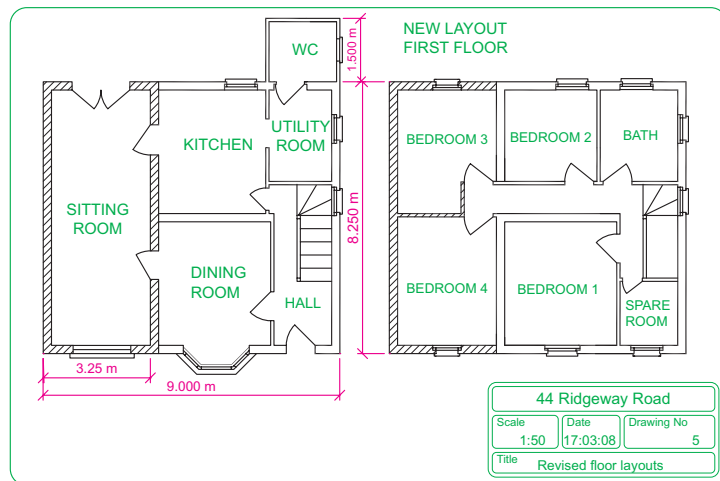
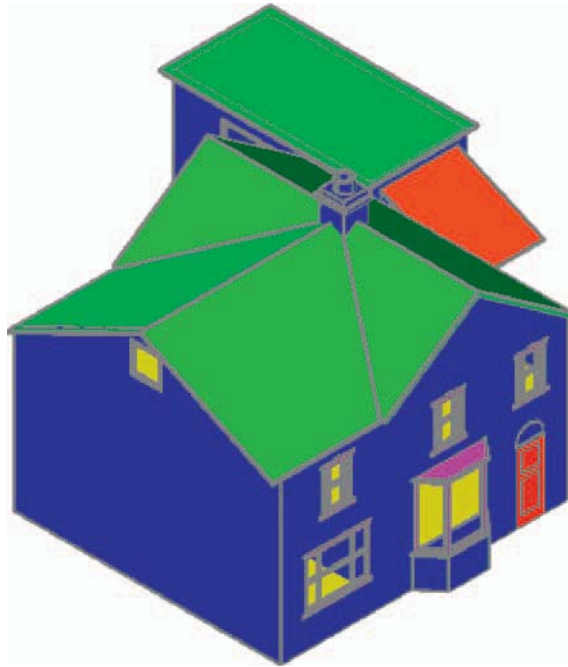

Fig. 16.5 Floor layouts drawing of the proposed extension
Fig. 16.20 Second example – a **Realistic** view of the building with its extension
5. Floor layouts including the proposed extension, drawn to a scale of **1:50** (Fig. 16.5).
Working to a scale of **1:50** and taking dimensions from Figures 16.5 and 16.6 (page 326 and in a manner similar to the method of constructing the 3D model of the original building, add the extension to the original building. Fig. 16.20 shows a **Realistic** visual style view of the resulting 3D model. In this 3D model floors have been added – a ground and a first-storey floor constructed on a new layer **Floors** of colour **yellow**. Note the changes in the bay and front door.